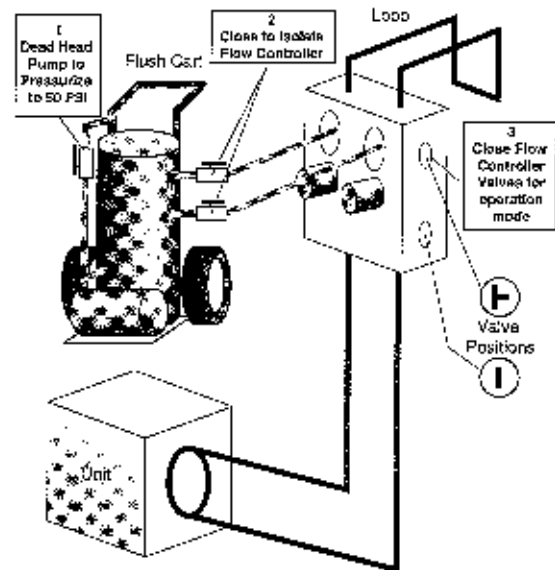

Figure 9E - Valve position E - Pressurize and Operation
- 7) Close the flush cart return valve; immediately thereafter, close the flush cart supply valve. shut off the flush cart leaving a positive pressure in the loop of approximately 40-50 psi for Summer and 50-75 psi for Winter. Refer to Figure 9E for more details.